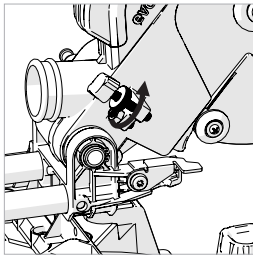

Fig. 26b
- Loosen the knurled locking nut. (**Fig. 26b**)
- Once set to the desired depth, tighten the knurled locking nut (**Fig. 26b**) against the retaining bracket to lock the depth stop and ensure that there is no movement.